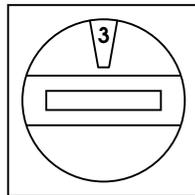

Figure 4. A rotary switch set to linecard ID 3
- Dial the rotary switch to select a unique linecard identification number, as shown in the example in Figure 4.